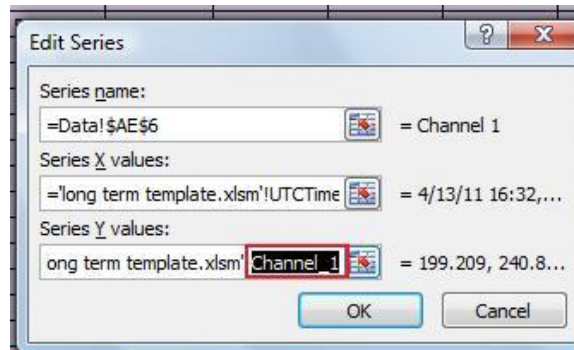

Figure 38: Changing the Crack Channel for a Plot
19. In the menu shown in Figure 38, change the number after the word channel to the desired channel source in the **Series Y values** selection box. For Example, Change Channel_1 to Channel_3. Click **OK**.